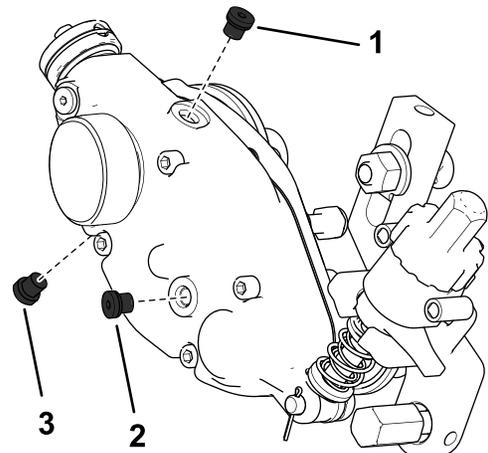

Figure 28
2. Remove the drain plug on the bottom of the housing (Figure 28).
3. Remove the fill plug on the side of the housing and loosen the air vent plug on the top so air can pass through (Figure 28).